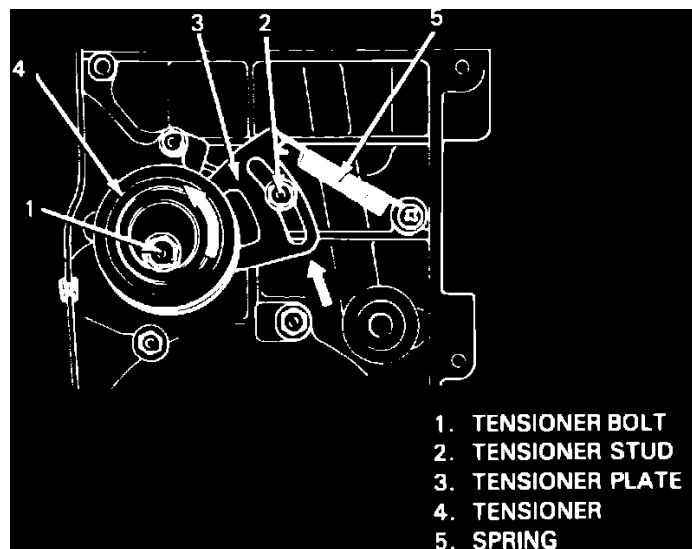

Fig. 10 Checking tensioner plate movement
2. Install tensioner, tensioner plate and spring. Hand tighten tensioner bolt and stud only. Check that plate movement is in direction shown in **Fig. 10**. If no movement occurs between plate and tensioner, remove tensioner and plate and re-insert plate lug into tensioner hole.